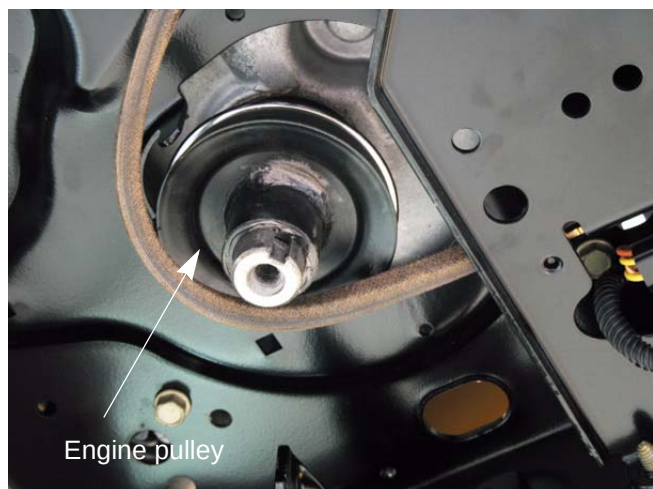

Figure 5.3
5. Slide the engine pulley down far enough to slip the belt off of the pulley. See Figure 5.3.